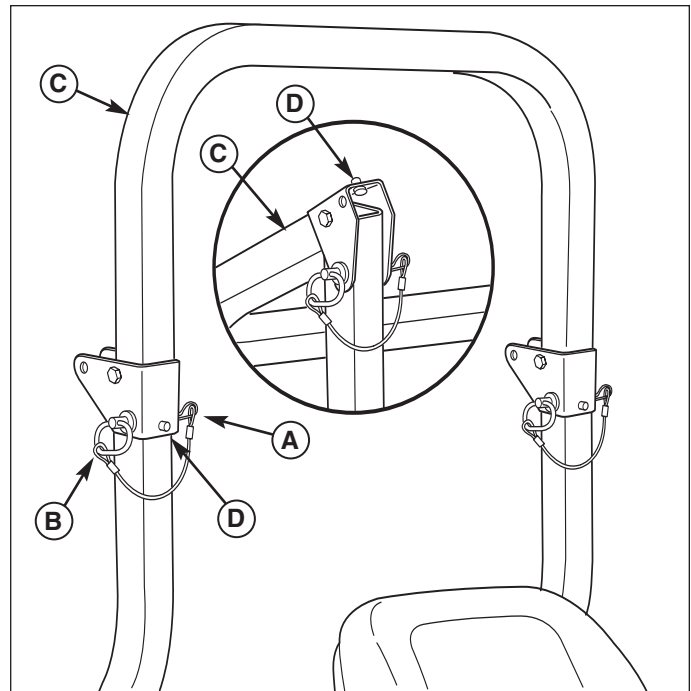
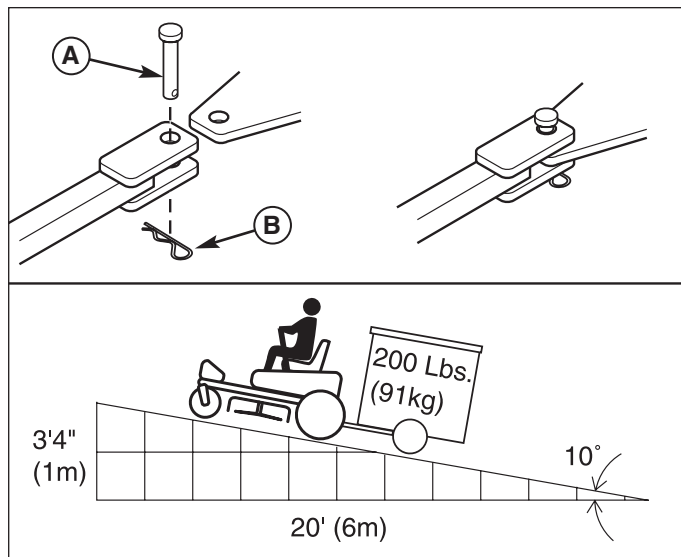

Figure 9. Raise & Lower the Roll Bar
Figure 10. Trailer Weight Recommendations
1. Pull the hair pin clips (A, Figure 9) out of the retainer pins (B).
2. Push or pull the top of the roll bar (C) forward against the rubber stops (D) and remove the retainer pins (B).
3. Lower the roll bar and reinstall the retainer pins and hair pin clips to secure the roll bar in the down position (see insert, Figure 10).
The maximum weight of a towed trailer should be less than 200 lbs (91kg). Secure the trailer with a appropriately sized clevis pin (A, Figure 10) and clip (B).